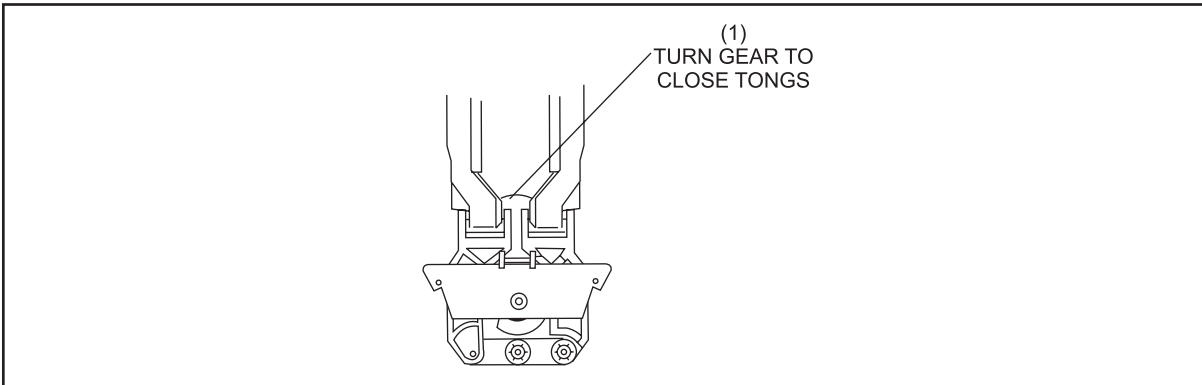

Figure 8-8. Spotting Tongs Completely Closed
- (1) SPOTTING TONGS PIN STATIONS 1, 4, 5, AND 6 (2) SPOTTING TONGS PIN STATIONS 2, 3, 7, 8, 9, AND 10
- Turn the gear on the bottom of the spotting tong assembly until the tongs are completely closed. Refer to *Figure 8-8*.